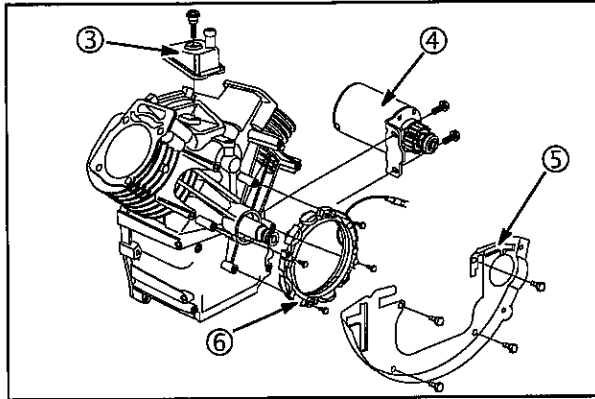

Fig. 20
1. Remove breather (3), alternator (6), backplate (5) and starter motor (4), **Fig. 20**.